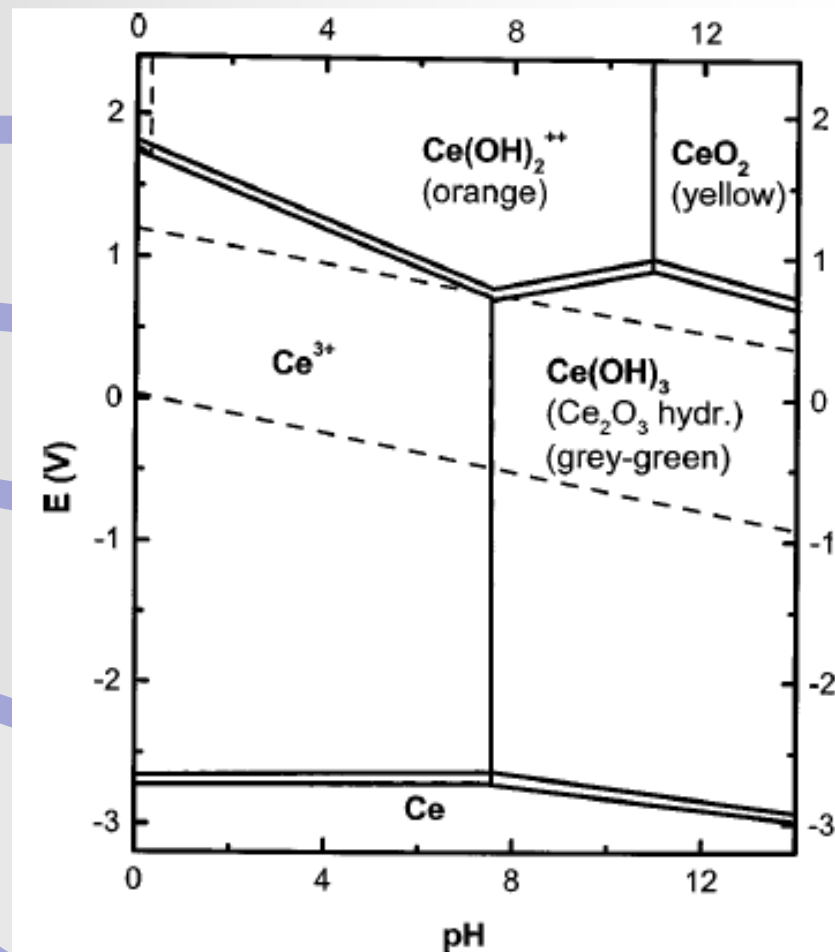
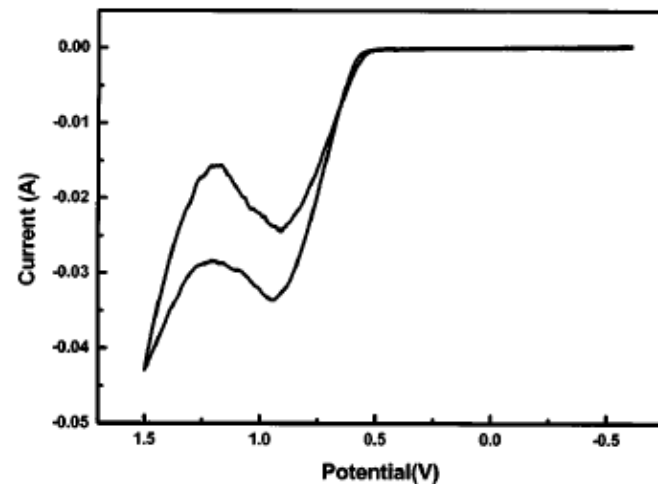

Figure 1. Simplified Pourbaix diagram of cerium species.
Figure 3. CV of cerium-acetic acid complex in 0.1 M $\text{Ce}(\text{NO}_3)_3$ and 0.1 M acetic acid, pH 12.0, $T = 25^\circ\text{C}$, and scan rate 50 mV/s.
Figure 1. Cyclic voltammograms for 1×10^{-3} M uric acid (A), dopamine (B), ascorbic acid (C), DOPAC (D), catechol (E), epinephrine (F), 4-methylcatechol (G), and norepinephrine (H) at bare and coated glassy carbon electrodes (dotted and solid lines, respectively). Conditions:
Figure 3. Cyclic voltammograms for 1×10^{-4} M $\text{Ru}(\text{bpy})_3^{2+}$ (A), $\text{Ru}(\text{NH}_3)_6^{3+}$ (B), and MV^{2+} (C) recorded continuously at a glassy carbon electrode coated with Eastman-AQ film. Scan rate is 20 mV/s; other conditions are as in Figure 1.
Fig. 1. Formation of polyphthalocyanine polymer film from heating at 400 °C for 30 min 1,2,4,5-tetracyanobenzene (TCB) on the metal surface. Metal center bond is iron.